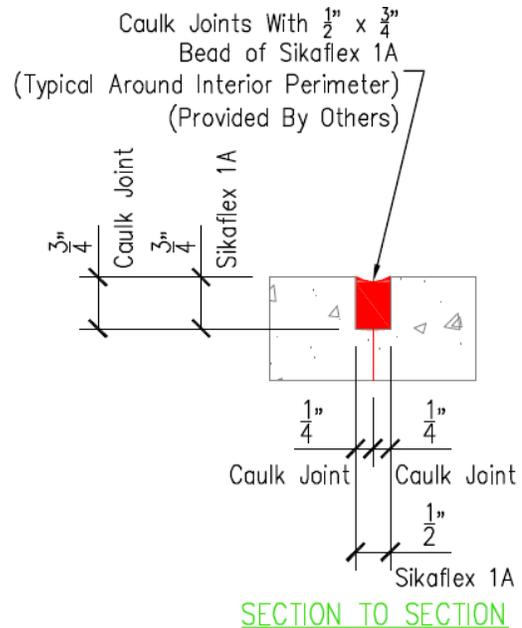

Figure 4 Typical caulk application between sections
- Seal all joints with Sika Flex 1a (or an approved equivalent) in accordance with the manufacturers recommended procedures (See Fig.4). All joints must be dry and free of debris with concrete temperature between 40 and 100 Deg F prior to sealant application to ensure proper adhesion.